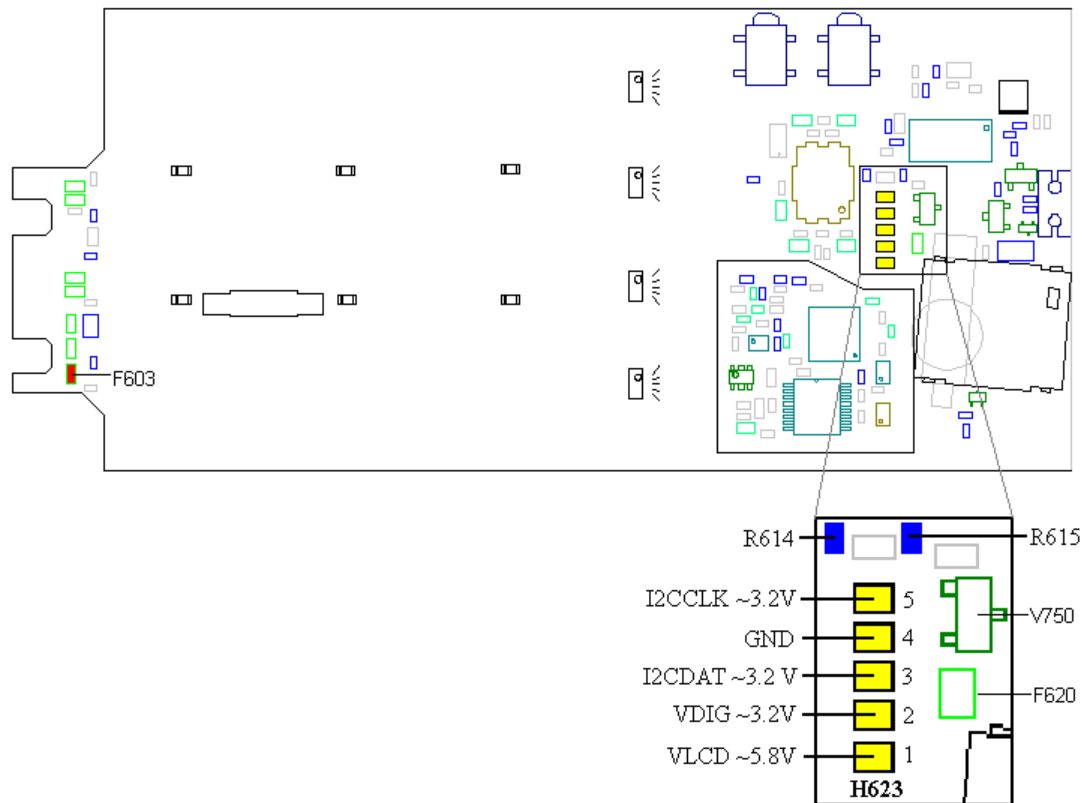
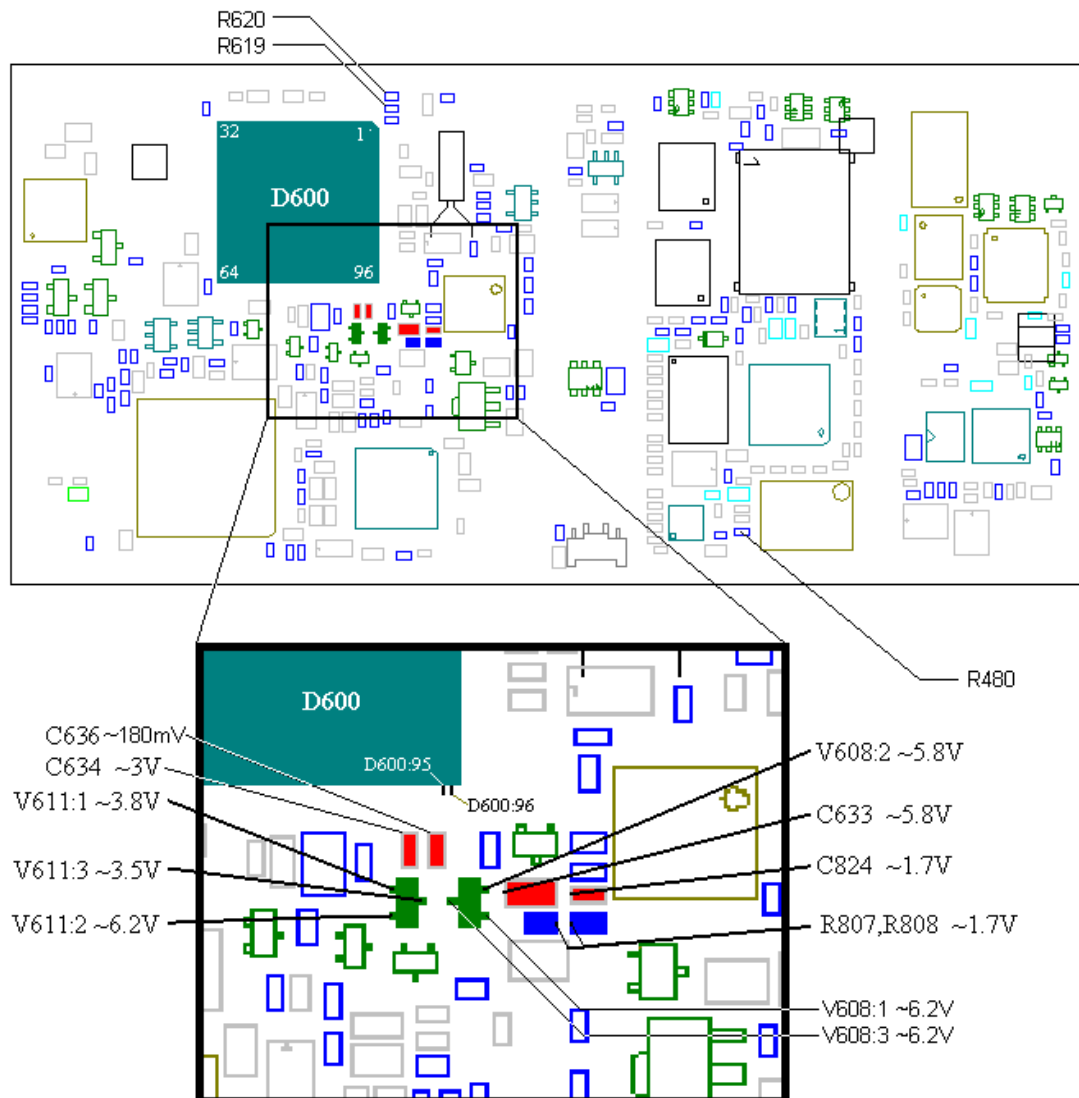

Fig. 5.1
Fig. 5.2
Measure the voltage at the display pads (H623, fig. 5.1).
If I^2C DAT or I^2C CLK voltage is missing, measure the resistance of R619 (~6.8 kohms), R620 (~6.8 kohms), R615 (~0 ohms) and R614 (~10 kohms, all of class A, R619 and R620 in fig. 5.2 and R615 and R614 in fig. 5.1).
* If the resistance is too low, replace V750 (class A, fig. 5.1).
Check the solderings at pin 3 and 4 of D600 (fig. 5.2).
If VLCD is incorrect, measure the voltage at pin 1 of V611 (~3.8V, fig. 5.2).
- If there's no voltage, replace R480 (class A, fig. 5.2).
- If the resistance is too low, replace C633 (class A, fig. 5.2).
* If the fault remains, replace F620 (class A, fig. 5.1).
- If the PWM0 and PWM1 signals are missing, check the resistances of C634 and C636 (both of class A and in fig. 5.2) to see if there's a short circuit in one or both of them.
- * If there is no short circuit in any of the capacitors there's probably D600 (class B, fig. 5.2) that is faulty. Replace it.
If VLCD voltage is more than 6V, replace V608 (class A, fig. 5.2).
If VLCD voltage is less than 2.5V, check if the V608 and V611 (class A, fig. 5.2) diodes are faulty (by measuring the voltage drop with a multimeter).
- If the diodes aren't faulty, replace C634 and C636 (class A, fig. 5.2).
- If that doesn't help, replace R807, R808 and C824 (fig. 5.2, all of class A).